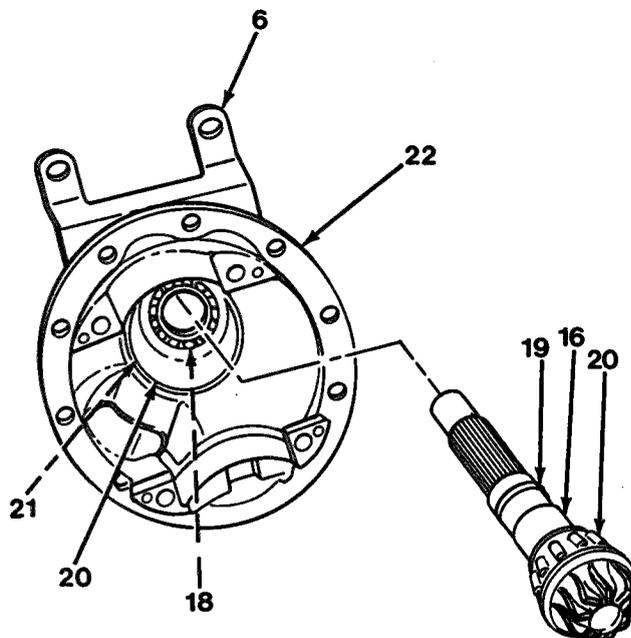

Figure 12-6
- e. Measure and record distance across machined surfaces on bearing cap (11) located above bearing bores.
- (1) Tighten adjusting nut (9) until distance is 0.001 in. (0.03 mm) greater than the distance recorded in step e.
- f. Using a dial indicator, check backlash between pinion (16) and ring gear (12, Figure 12-6). Backlash must be 0.007 to 0.009 in. (0.18 to 0.23 mm).